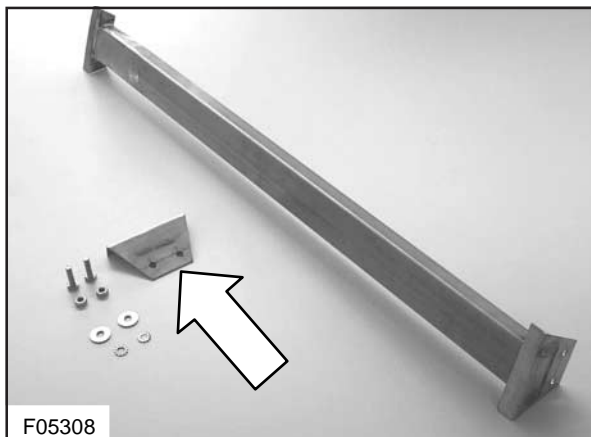
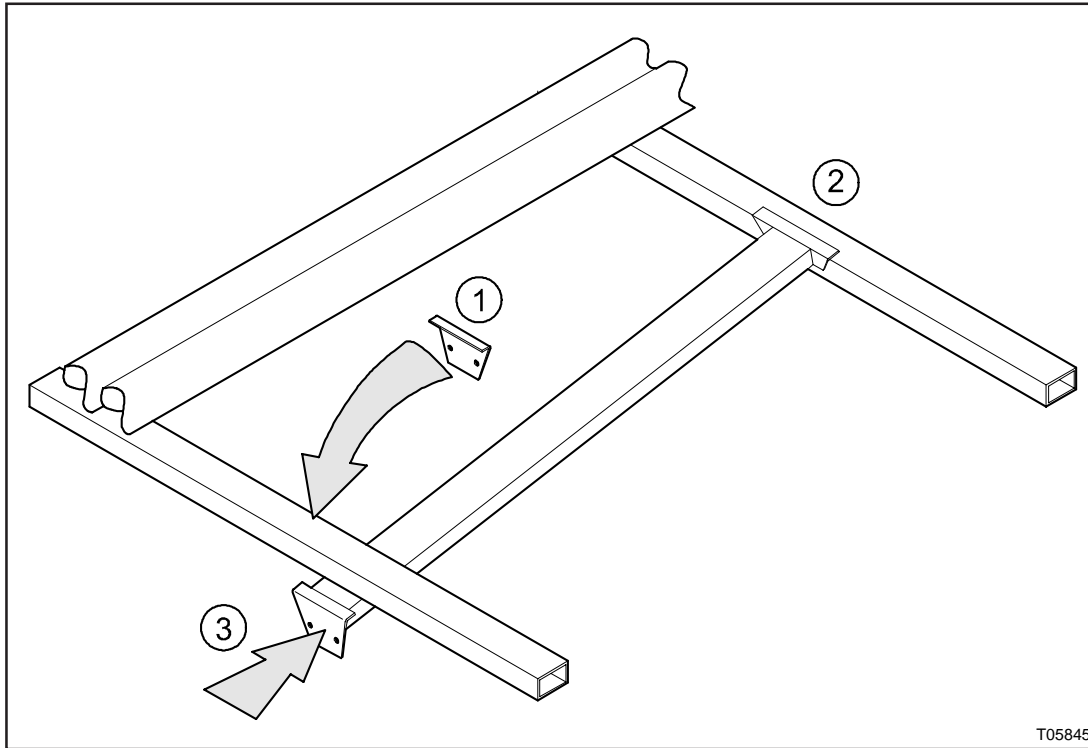

Figure 8 : L-shaped mounting bracket VH 10726302
Figure 9 : Front axle frame reinforcement brace installation, sequence I
1. Working underneath the coach, above the front axle, position L-shaped mounting bracket VH 10726302 (see Figure 8) as close as possible to the coach center line against the foremost chassis crossmember with the shorter lip facing forward. Drive the bracket between the crossmember and the plywood passenger compartment floor with a hammer (see 1, Figure 9).
2. Position the angle bracket of reinforcement brace VH10726316 against the opposite crossmember (see 2, Figure 9), as close as possible to the coach center line. Drive the lip between the crossmember and the plywood passenger compartment floor using a hammer and drift (see 3, Figure 9).